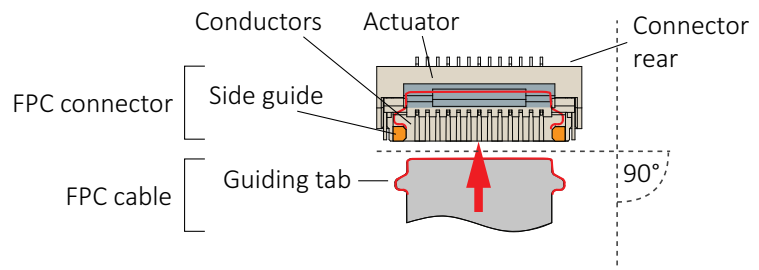
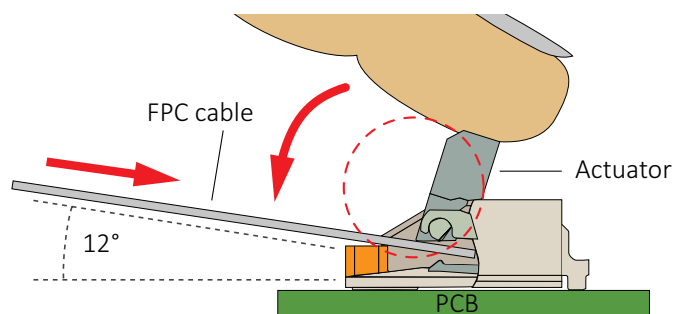

Figure 21: FPC cable and FPC connector
Figure 22: Engaging the FPC cable in the FPC connector
2. **Ensuring proper cable direction between host and camera**, take the FPC cable with conductors facing the FPC connector conductors (see Figure 21).
3. Take the FPC cable with conductors facing the PCB and feed it into the connector at a horizontal angle of 90° to the connector's rear (see Figure 21) and at a vertical angle of 12° to the PCB (see Figure 22)...
4. ...until cable guiding tabs are caught between connector rear and side guides (see Figure 21). Pull the cable slightly to ensure guiding tabs are properly engaged.
5. Holding the FPC cable in position, flap down the actuator to closed position (see Figure 22).